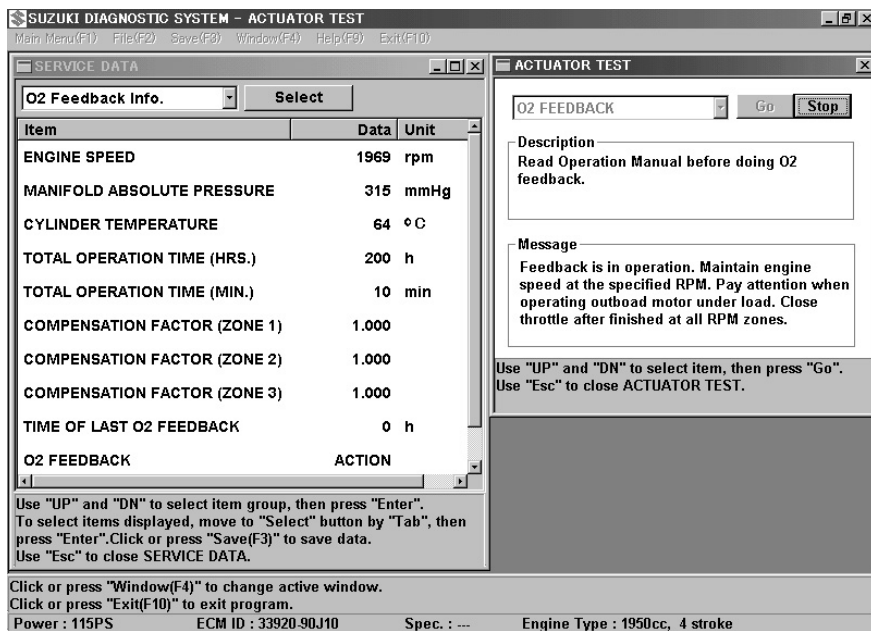

Fig.61
5. Adjust the engine speed to “ZONE 1” and click the “Go” button. (Fig.61)